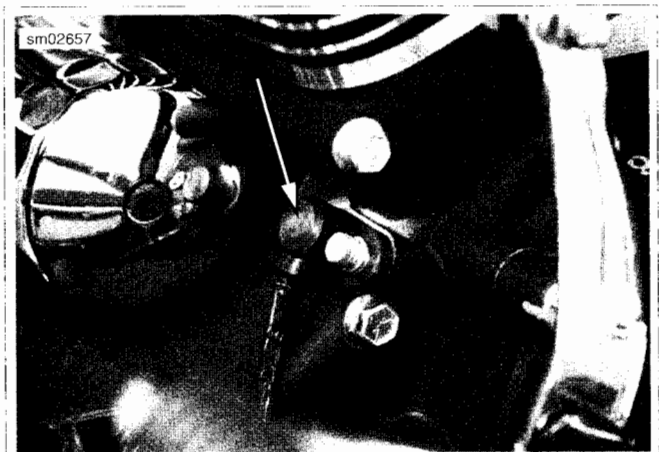

Figure 7-58. Installed CKP Sensor
2. See Figure 7-58. Install new CKP sensor with screw and captive washer. Tighten screw to 90-120 **in-lbs** (10.2-13.6 Nm).